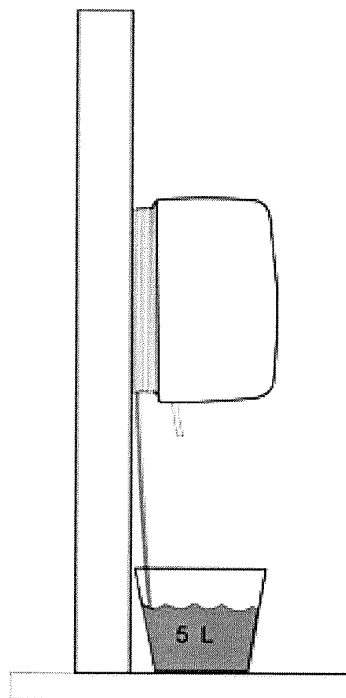

Fig. 23
- Remove the cap after placing a bucket or other container underneath it (at least five litre capacity) to collect the water (see fig. 23).